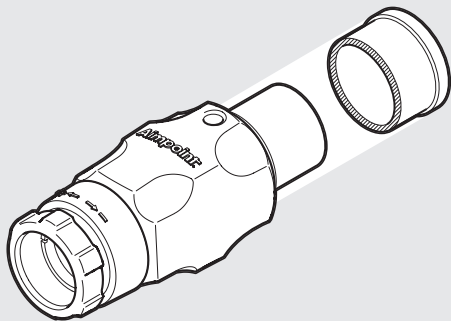

Fig. 2 Remove rubber cover
The mounting surface (3) of the magnifier allow for mounting to any 30 mm diameter ring mount when the rubber cover has been cut off (Fig. 2).